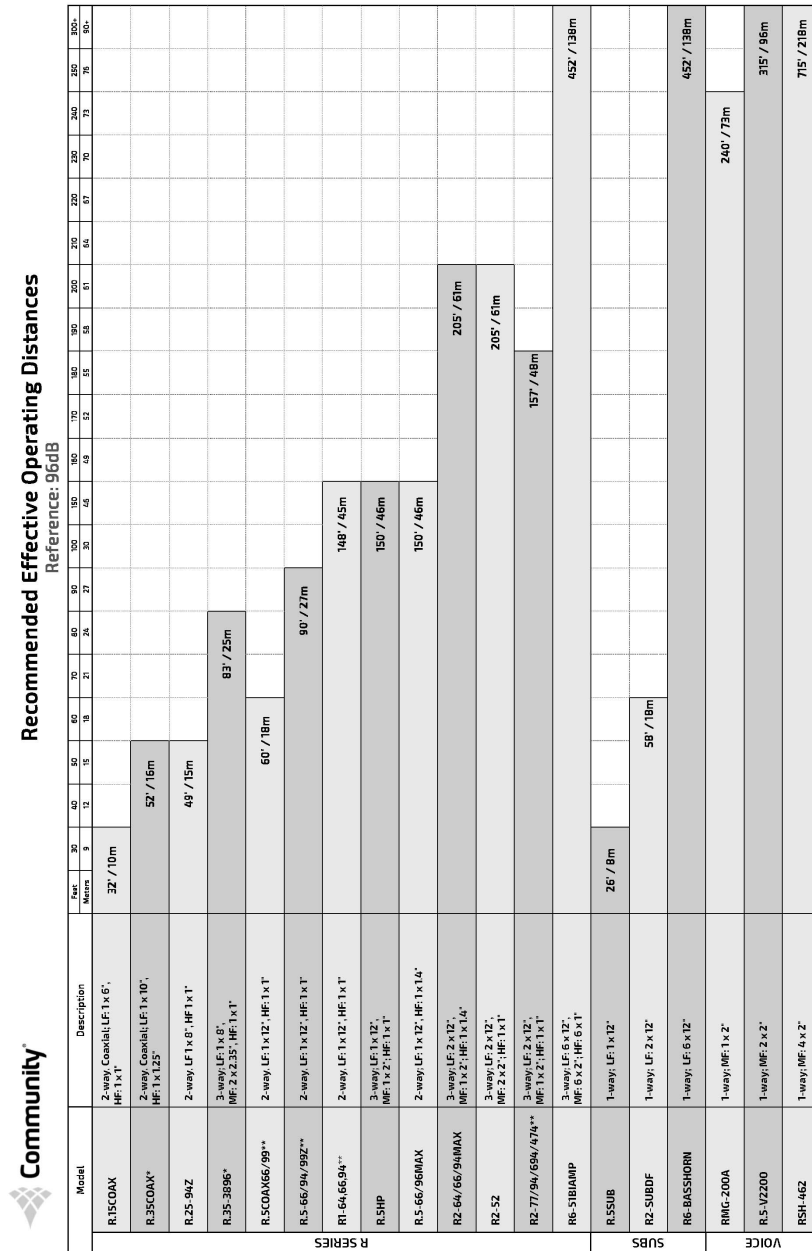

FIGURE 3: Recommended Operating Distances
Custom Mounting Brackets: Custom brackets may be used. When mounting the loudspeaker the bracket should pull directly either in tension or shear on the mounting point (See FIGURE 3). It is recommended that any custom bracket be designed to utilize two mounting points on the opposite sides or top and bottom of the enclosure.
5. After properly securing the yoke to the structure, adjust the final aiming angle of the R1. Once the aiming angle is set, carefully bend the Securing Strap towards the nearest mounting point on the R1 so that one of the series of holes in the Strap lines up with the selected mounting point. This may involve forming the strap into a "U" shape (as shown in FIGURE 3 "Assembled View") to reach one of the remaining side mounting points or the rear mounting point.